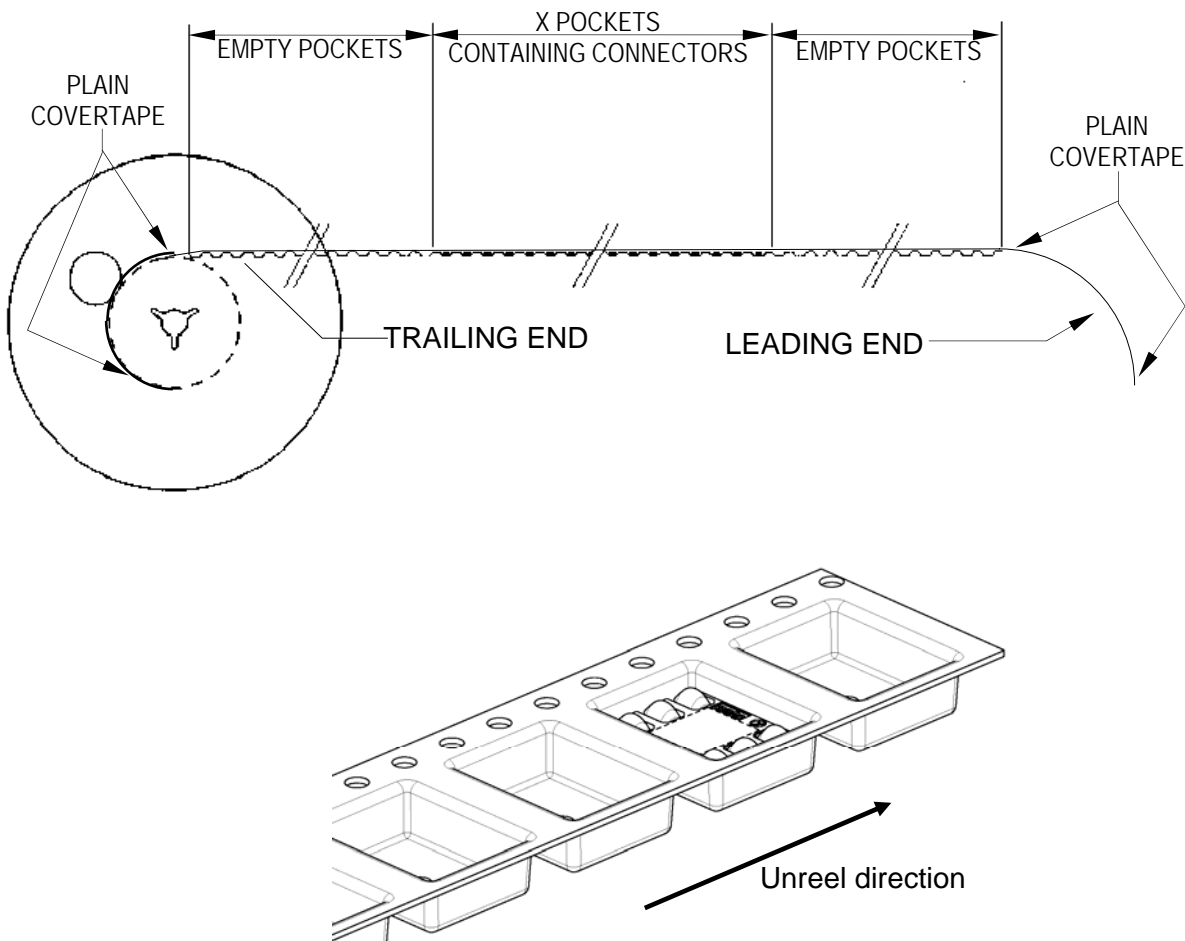

Figure 2
The leading end of each new reel starts with empty covered pockets, followed by X covered pockets containing connectors (see customer drawing C-1705300), empty covered pockets and a certain length of plain covertape fixed to the core of the reel. (see figure 2.)
- A. The connectors are pre-positioned in the EIA packaging to accommodate easy robotic Pick & Place (P&P) see figure 2.